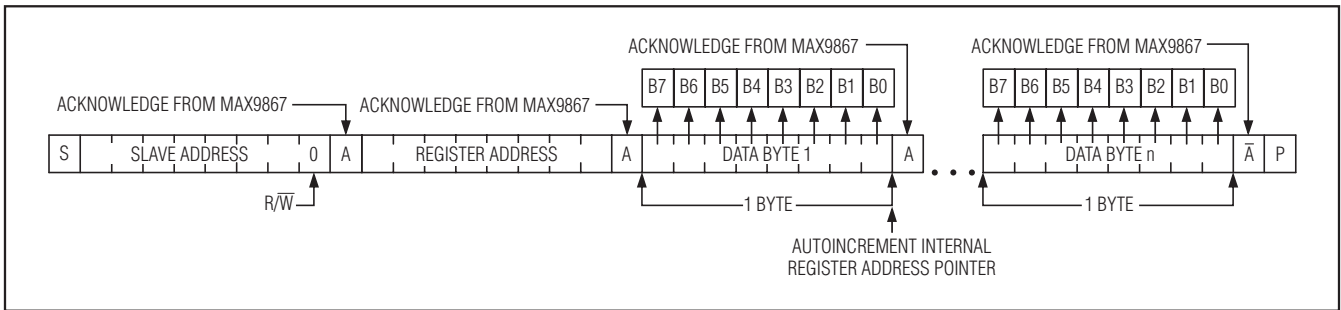

Figure 13. Writing n Bytes of Data to the MAX9867
The third byte sent to the MAX9867 contains the data that is written to the chosen register. An acknowledge pulse from the MAX9867 signals receipt of the data byte. The address pointer autoincrements to the next register address after each received data byte. This autoincrement feature allows a master to write to sequential registers within one continuous frame. Figure 13 illustrates how to write to multiple registers with one frame. The master signals the end of transmission by issuing a STOP (P) condition. Register addresses greater than 0x17 are reserved. Do not write to these addresses.